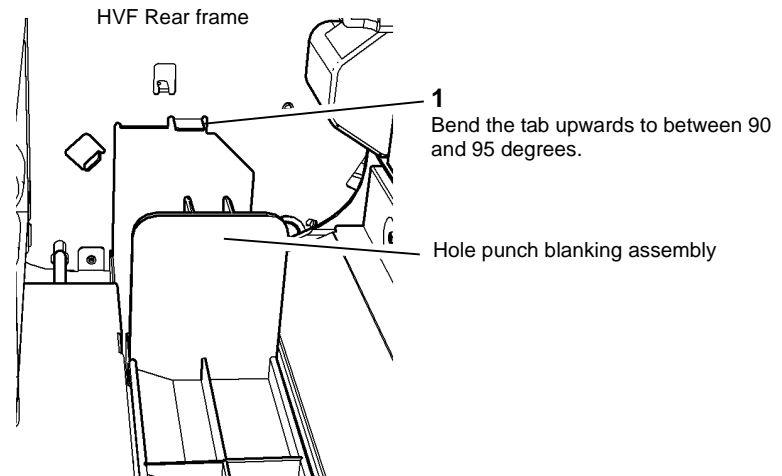

Figure 3 HVF rear frame
1. Remove then reinstall the hole punch blanking assembly, PL 11.153 Item 4. Check if the assembly collides with the tab, refer to Figure 3.
2. Figure 3. If necessary bend the tab.